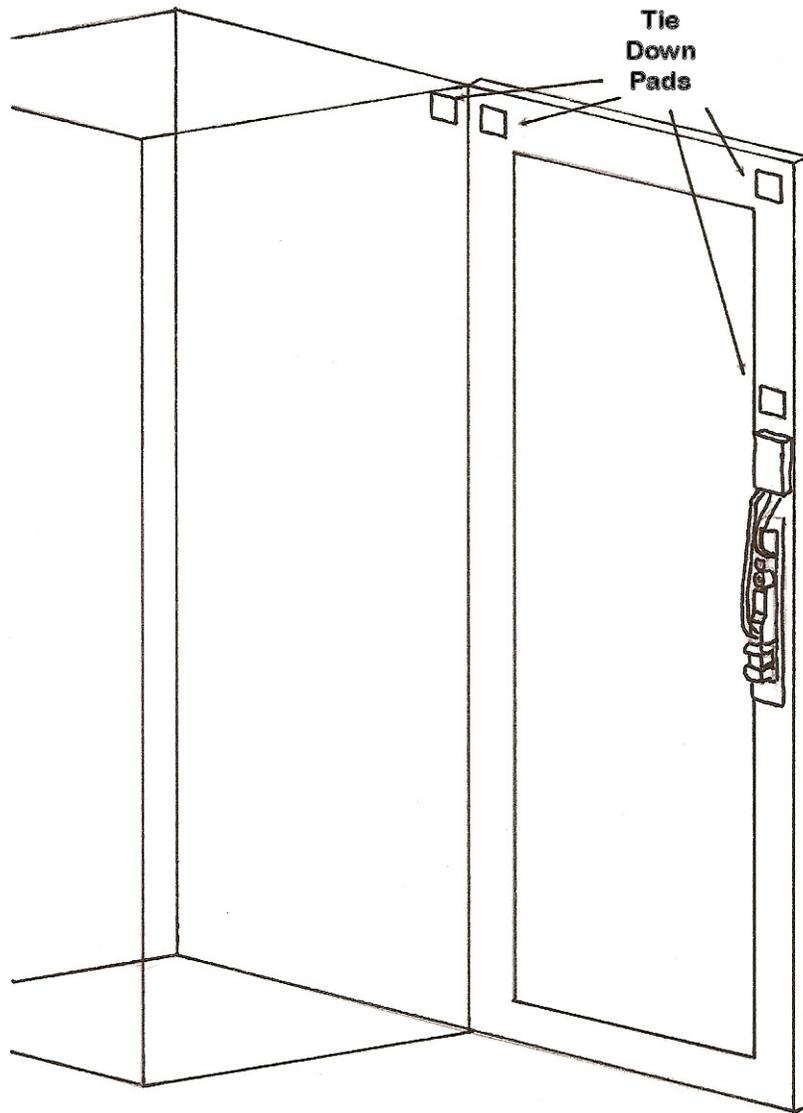

Figure 9
- Remove the protective cover from each tie-down pad and situate as shown in Figure 9.